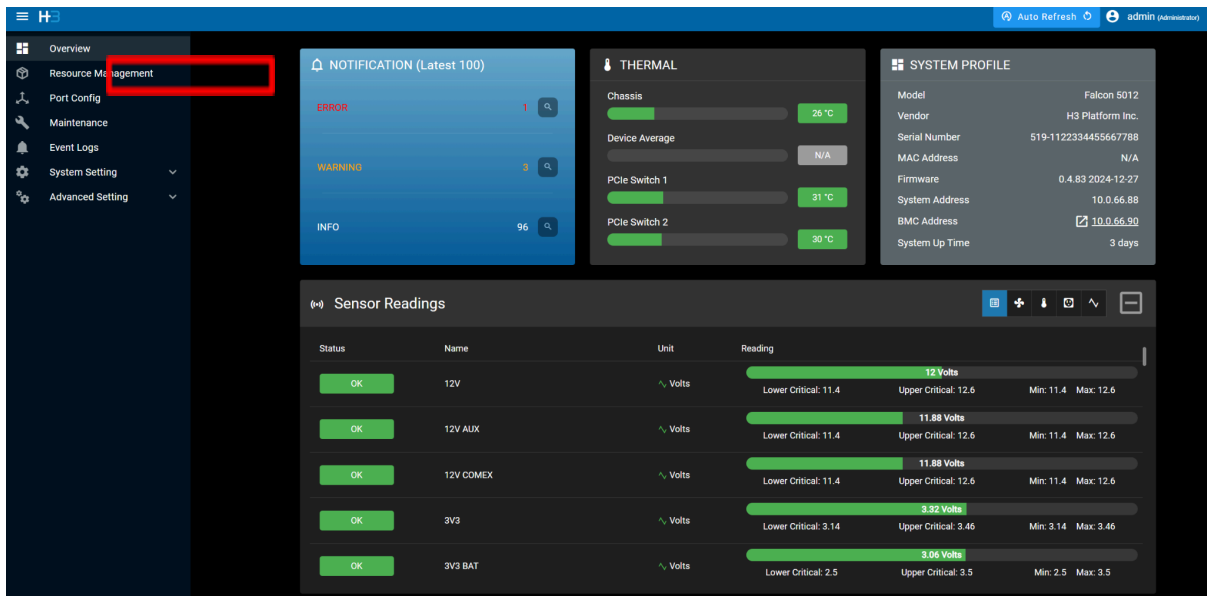

Figure 66. Accessing the Resource Management Interface on GUI
A. Navigate to the Resource Management interface in the GUI (refer to Figure 66).